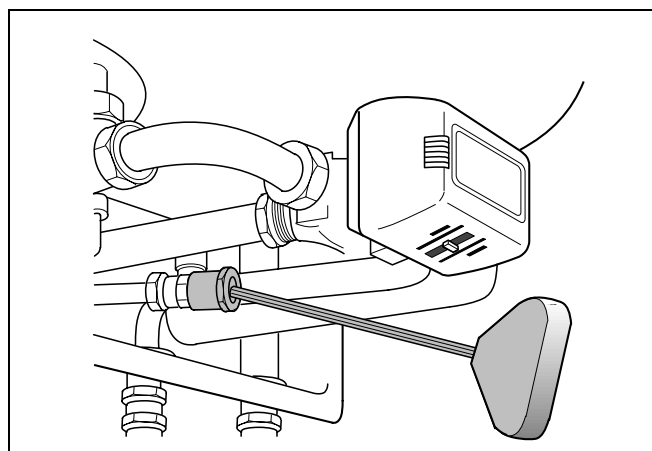

fig. 31 Hot water flow volume limiter
- Set the desired value on the flow volume limiter (fig. 31),